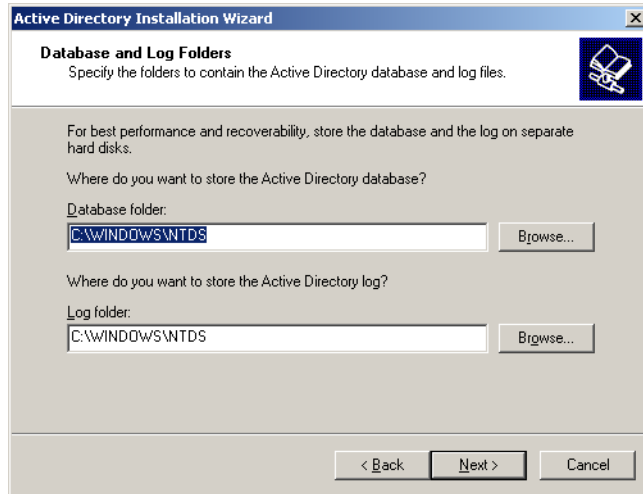

Figure D-34 Directory and log folders dialog
17. In the **Directory and Log Folders** dialog shown in figure D-34, enter **C:\Windows\NTDS** in the **Log Folder** dialog box as shown in figure D-34. This points the log folder to its default location in Microsoft Windows.